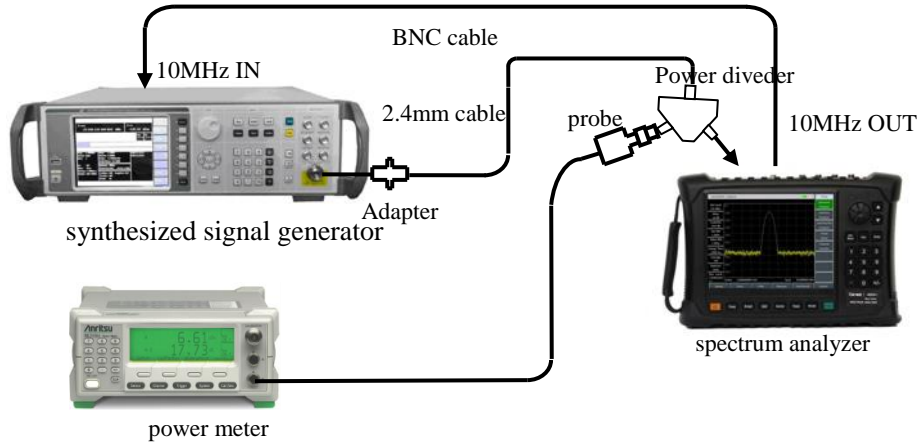

Fig. 12-16 Setting for Total Level Uncertainty Test
- 2) Connect the test equipment as shown by the dotted line in Fig. 12-16. Connect the output of the signal generator to the SUM port of the power divider, and PORT1 and PORT2 connect to the power meter and spectrum analyzer.